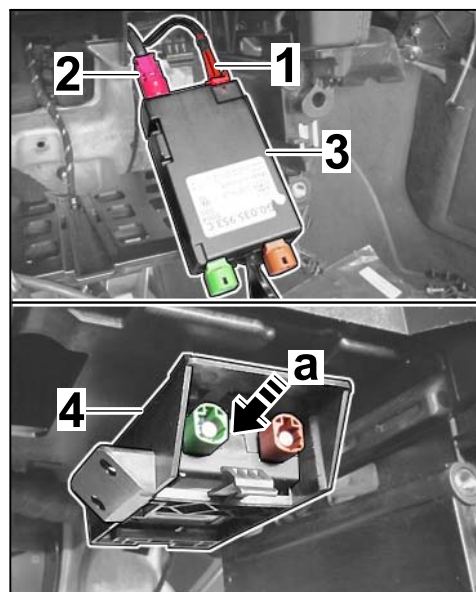

Figure 25
- 4.5.2 Push USB/iPod control unit into the USB/iPod control unit holder ⇒ *Figure 25-4* (⇒ *Figure 25-a*) until the USB/iPod control unit engages securely.